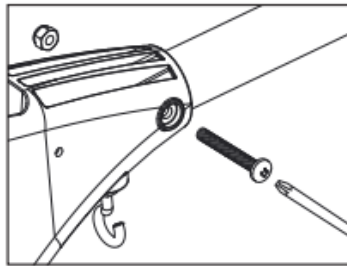
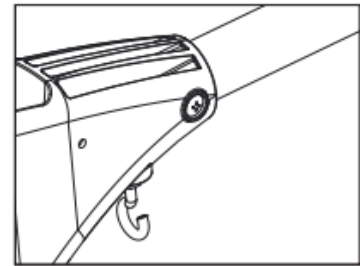
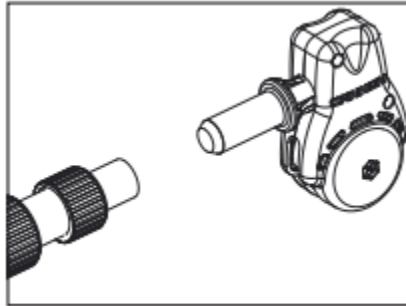

Figure 2
Figure 3
Figure 4
3. With a Phillips head screw driver, thread bolt into nylon locknut from step 2 (Figure 2). Tighten bolt until the end of the bolt is flush with the top of the nut. (Figure 3)
3. Insert boom with ball hook collar assembly into frame (Figure 3) and line up holes in boom with holes in frame (Figure 4).
1. Locate boom end assembly and then insert boom end post into end of the small tube of the boom assembly. (Figure 4)